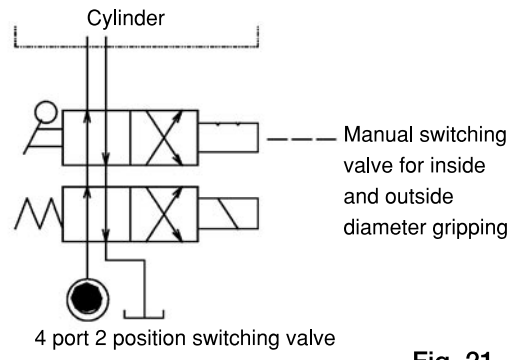

Fig. 21
- Consider the hydraulic circuit design so that the operation is easy and no mistakes in operation occur. Attempt failsafe for the circuit so as not to cause any accidents even in the case of blackout. (Fig. 21)